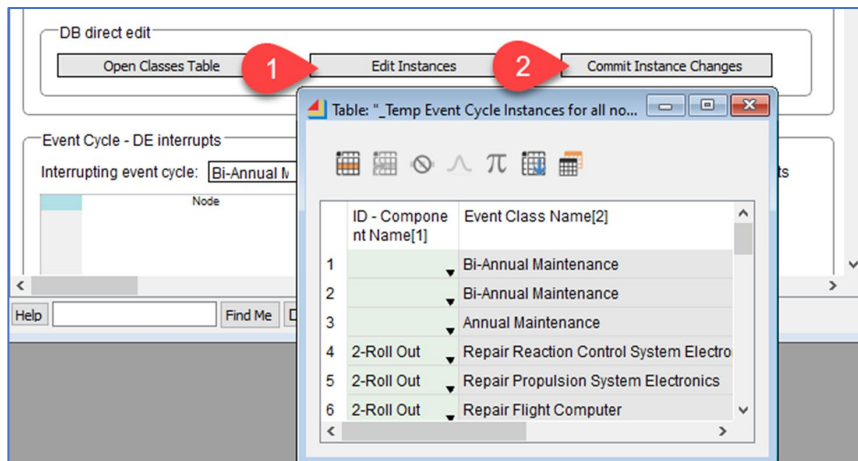

Figure 11-17: Committing Instances
Step 13: Ensure you view and then **Commit Instant Changes**. This is a step most people miss, and the model will not run unless you perform this step. See Figure 11-17. No entries are required.